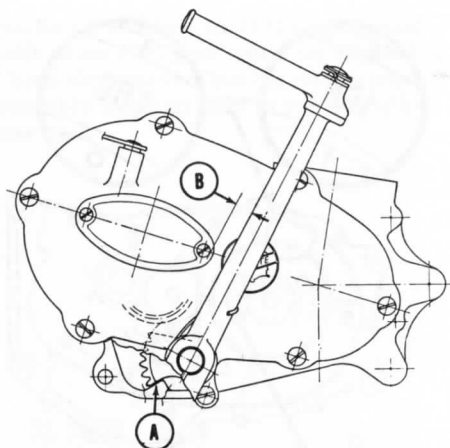

Fig. A2-9—Refer to text when installing the kick starter pedal.
kick starter pedal (24), turn the starter shaft counter-clockwise until gear contacts case as shown at (A—Fig. A2-9). Install starter lever on shaft so that distance (B) between lever and front of screw is $\frac{1}{4}$ – $\frac{1}{2}$ inch, then hook return spring over lever.